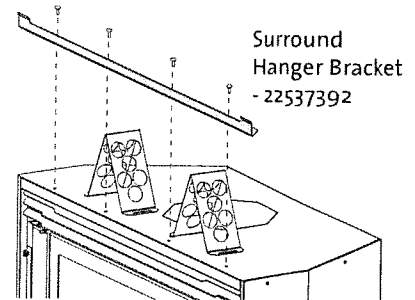

Figure 48.
1. Attach the Clevis Bracket to the lower panel using the remaining two sheet metal screws. See fig. 48. Hang the surround panel on the cabinet by engaging the tabs at the upper corners over the bracket.